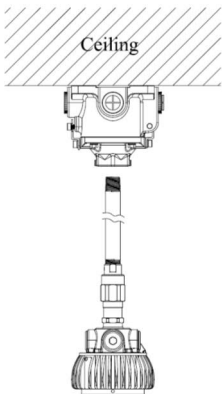

Figure 3
- ☞ The mounting type is for the use of straight pendant electrical tube mounting (Figure 3).